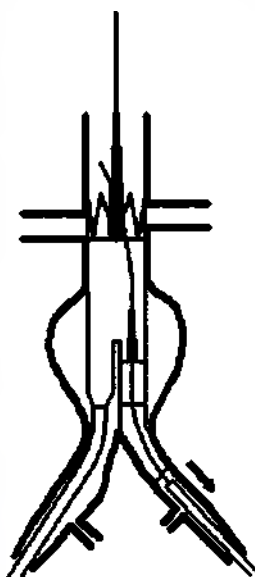

Fig. 11 Deploy the cuff Stent Graft in the short branch of AAA Stent Graft
- Withdraw outer sheath to deploy the extension branch cuff under monitoring. After the stent is deployed, withdraw the delivery system and guidewire. (Fig. 11)